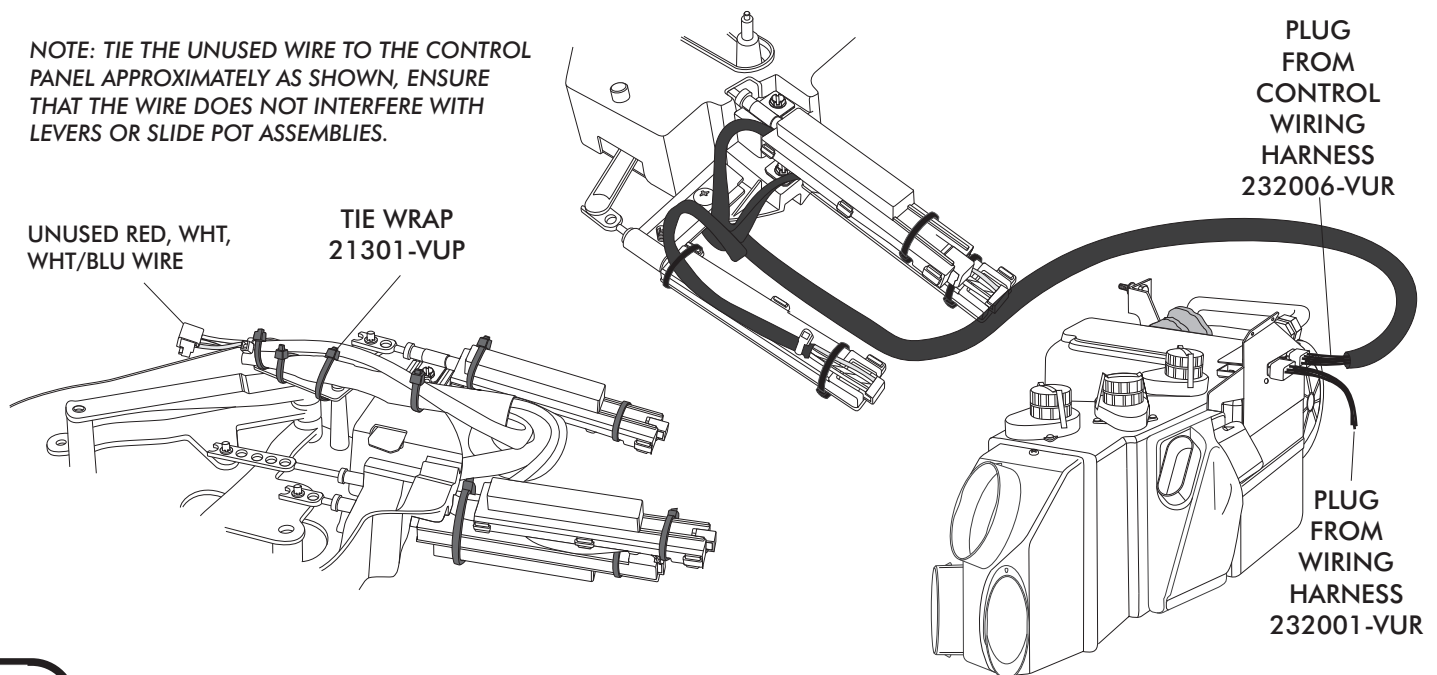

FIGURE 8
- ❑ USING THE SUPPLIED TIE-WRAPS, TIE THE WIRES AND THE UNUSED WIRE TO THE CONTROL PANEL AS SHOWN IN FIGURE 8 BELOW. CONFIRM THAT WIRES ARE SECURE AND DO NOT INTERFERE WITH LEVER OPERATION OR SLIDE POT ASSEMBLY.
- ❑ PLUG THE WIRING HARNESS INTO THE ECU MODULE ON SUB CASE. SEE FIGURE 8 BELOW.